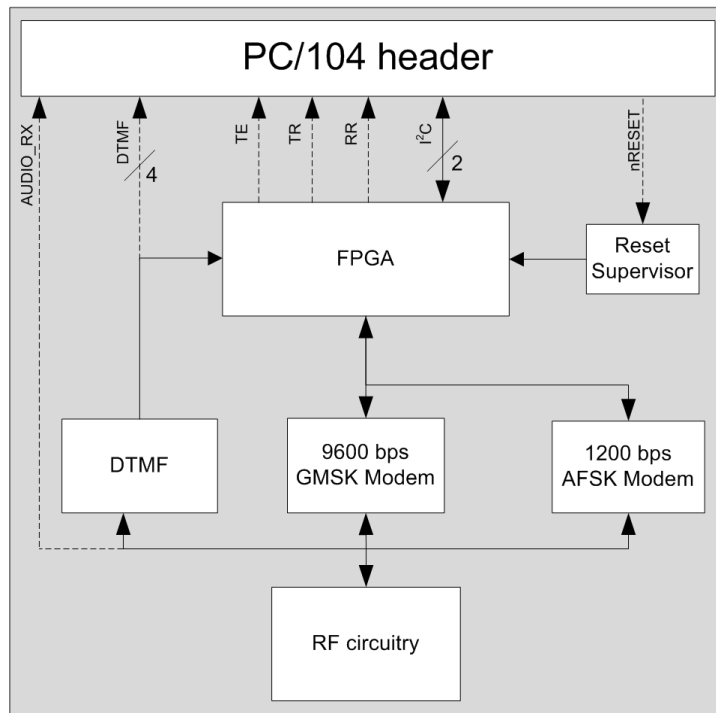

Figure 3: Block diagram of the CSK header connections. Broken lines indicate optional connections
Figure 3 illustrates the connections that are made available at the CSK header. Broken lines indicate optional connections. The only non-optional connection to the header (excluding power signals) is I2C. Optional connections that are provided on the header include DTMF signals, a transmit ready (TR) signal, transmit empty (TE), receive ready (RR), FPGA reset and the received baseband audio. The optional connections can be selected at the time of production and should be selected according to application and performance requirements. Should the optional functionality not be required it will not be made available at the header (there will be no physical connection). An explanation of the various connections is detailed later within this document. All signal voltage levels are 3.0 V LVCMOS. The AUDIO RX signal is the analogue demodulated baseband audio from the receiver. Note that should this signal be required that it is AC coupled meaning any DC offset would need to be recreated on the subsystem making use of the audio.